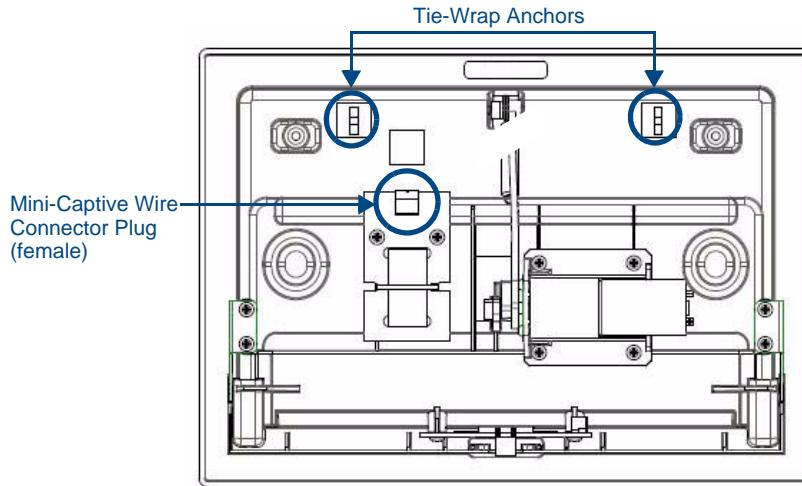

FIG. 12 MVP- WCS-52 - Rear view
7. Secure the power cable to the device, using either of the two tie-wrap anchors included in the Installation Kit at the top rear of the device (FIG. 12).